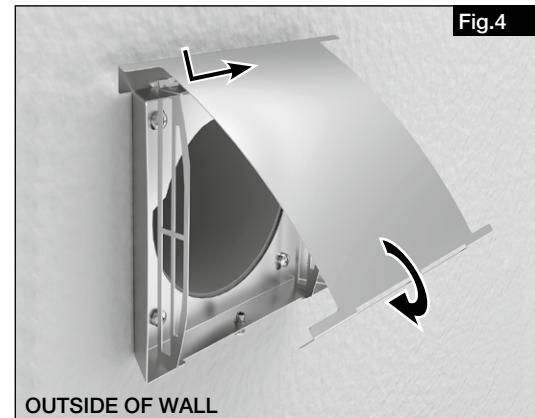

Fig.4
6. Hang the panel on the top of the frame and push to the right up to the stop (see Fig. 4).
7. Close panel and fix with locking screw (see Fig. 4).